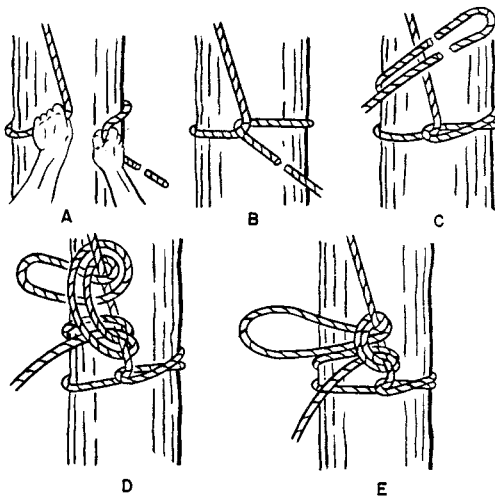
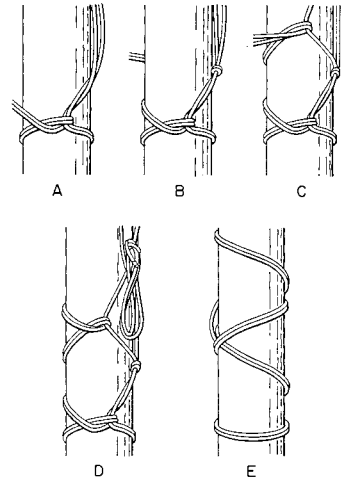
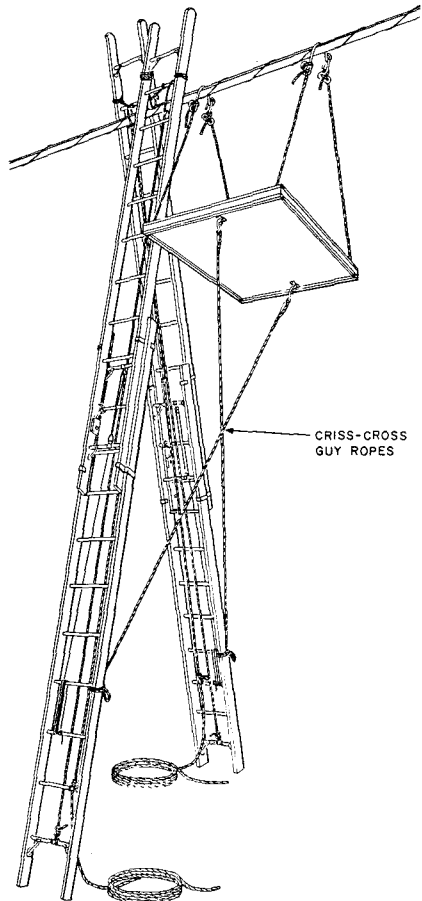
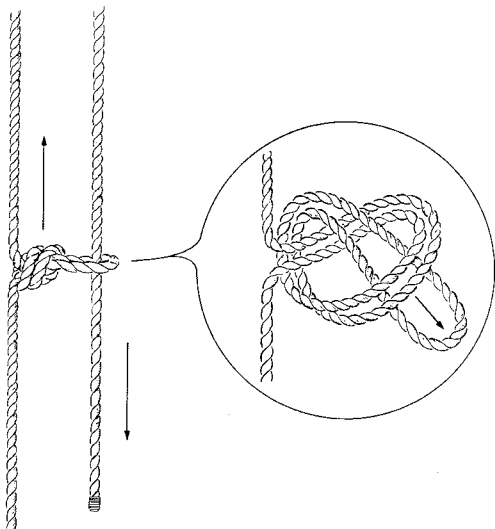

Fig. 12—Line Method of Tying Guy Ropes to Pole or Ladder Side Rail
Fig. 14—Alternate Method of Tying Guy Ropes To Pole
Fig. 17—Platform in Place and Lashed to Ladders
Fig. 17A—Handline With Bight and Loop
- (a) Guying to a pole is done as shown in Fig. 12, 13, or 14.
- (b) Guying to one ladder is done as shown in Fig. 12, 15, and 16.
- (c) Guying to two ladders ("A" frame) is done as shown in Fig. 12, 15, and 17. Fig. 17A, 17B, 17C, and 17D show details of two ladder ("A" frame) assembly which is shown in Fig. 17.
(d) The following steps required in tying the guy ropes to a pole or ladder are illustrated in Fig. 12. However, there are two methods of tying ropes to a pole or ladder. See Fig. 14 and 15 for the alternate methods.
- (1) Face the pole or ladder side rail from the side on which the platform is hanging or will be hung. Hold the standing end of the left-hand guy rope in the left hand and pass the loose end of the guy rope around the pole or ladder rail as shown in A of Fig. 12. Place the hitch so it will not interfere with pole steps.
- (2) Pass the loose end of the rope over the standing end, as indicated in B of Fig. 12 and pull to the desired tension. The hitch
- (3) Pass the free end up and over the first turn and around the back of the pole or ladder rail as shown in C of Fig. 12.
- (4) Secure the rope with two half hitches on the standing end as shown in D of Fig. 12.
- (5) Complete the tie on the left-hand guy rope as shown in E of Fig. 12.
- (e) Fig. 14 illustrates an alternate method of tying the platform guy ropes to a pole as follows:
- (1) Face the side of the pole on which the platform is hung. Hold both ropes together and pass around the pole as shown in A.